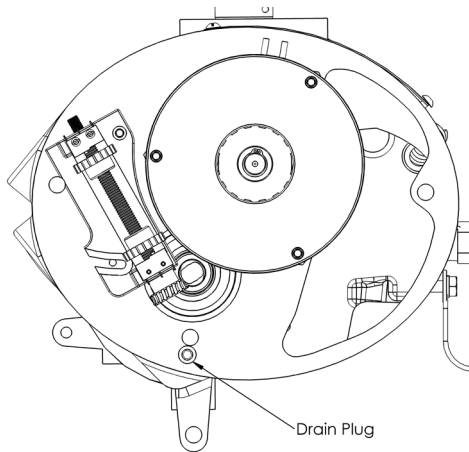

Figure 6-1
4. Place an empty container with a capacity over 1 litre under the drain plug (Figure 6-1). Unscrew the drain plug.